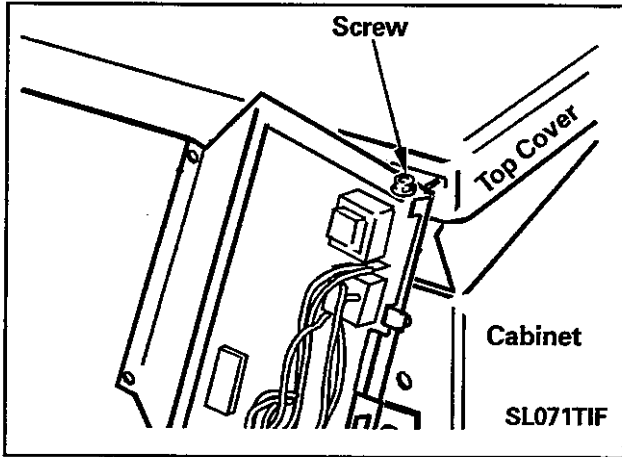

Figure 9-10
9. To secure the machine control board assembly in place for testing purposes, place a screw through the cabinet bracket flange after the control board assembly is positioned onto the cabinet bracket flange (Figure 9-10).